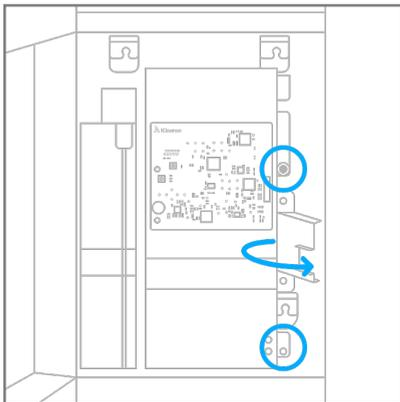
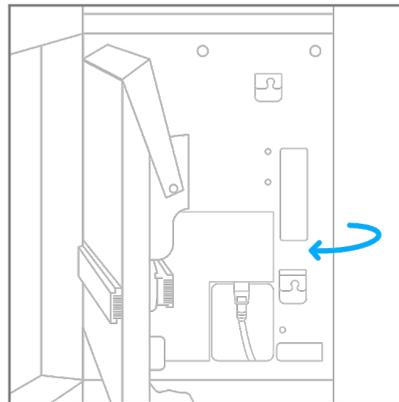

Figure 24.
Figure 25.
Step 1: With the main housing open, ensure the power switch is in the "OFF" position (O) and loosen the two thumb screws on the right side of the disinfection chamber. Rotate the fan duct out (Figure 24.) then rotate the disinfection chamber open (Figure 25.).